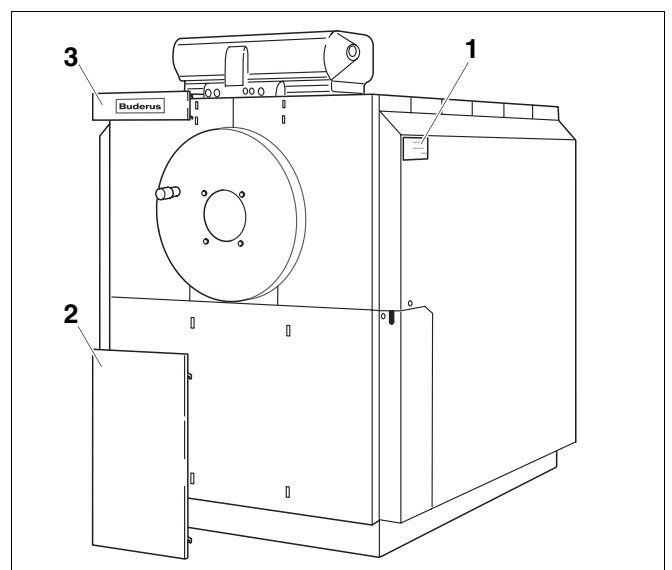

Fig. 25 Inserting front cover panels
- Hook the upper (Fig. 25, **Item. 3**) and the lower cover part (Fig. 25, **Item. 2**) into the front wall sections using the hook provided.
- Secure the rating tag plate to the side panel (Fig. 25).
- Affix the rating tag plate (Fig. 25, **Item. 1**) according to the boiler location on the left or right side wall.